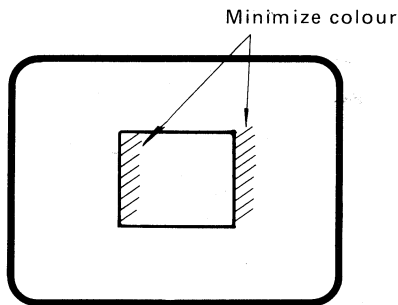

Fig. 4-2-58
- Adjust YL PHASE CT3 for minimum colour on the right side edge of white portion. (Fig. 4-2-58)